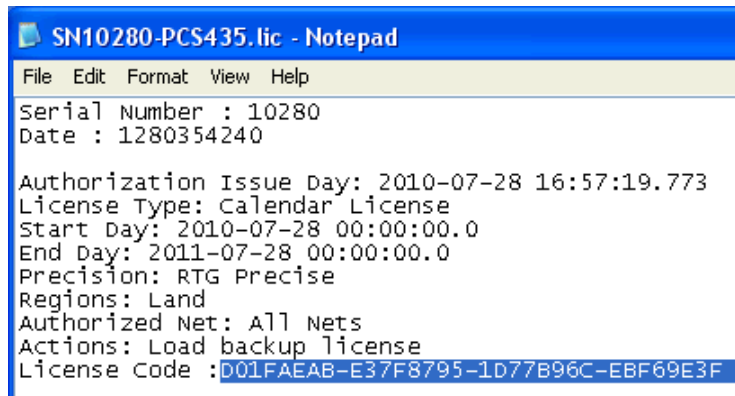

Figure 108: StarFire License Example
3. Browse to NavCom\StarFire License on the PC. Select the StarFire license file. The StarFire license file extension is *.lic. Figure 108 displays the contents of a typical StarFire license file.
1. Locate the StarFire .lic file in the root directory on the USB flash drive supplied with the unit, open that file in Notepad, and copy the license code (see Figure 108).